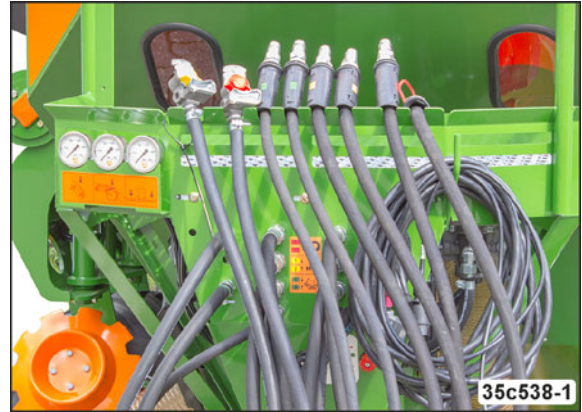

Fig. 155
14. Place the supply lines in the hose cabinet (Fig. 155).